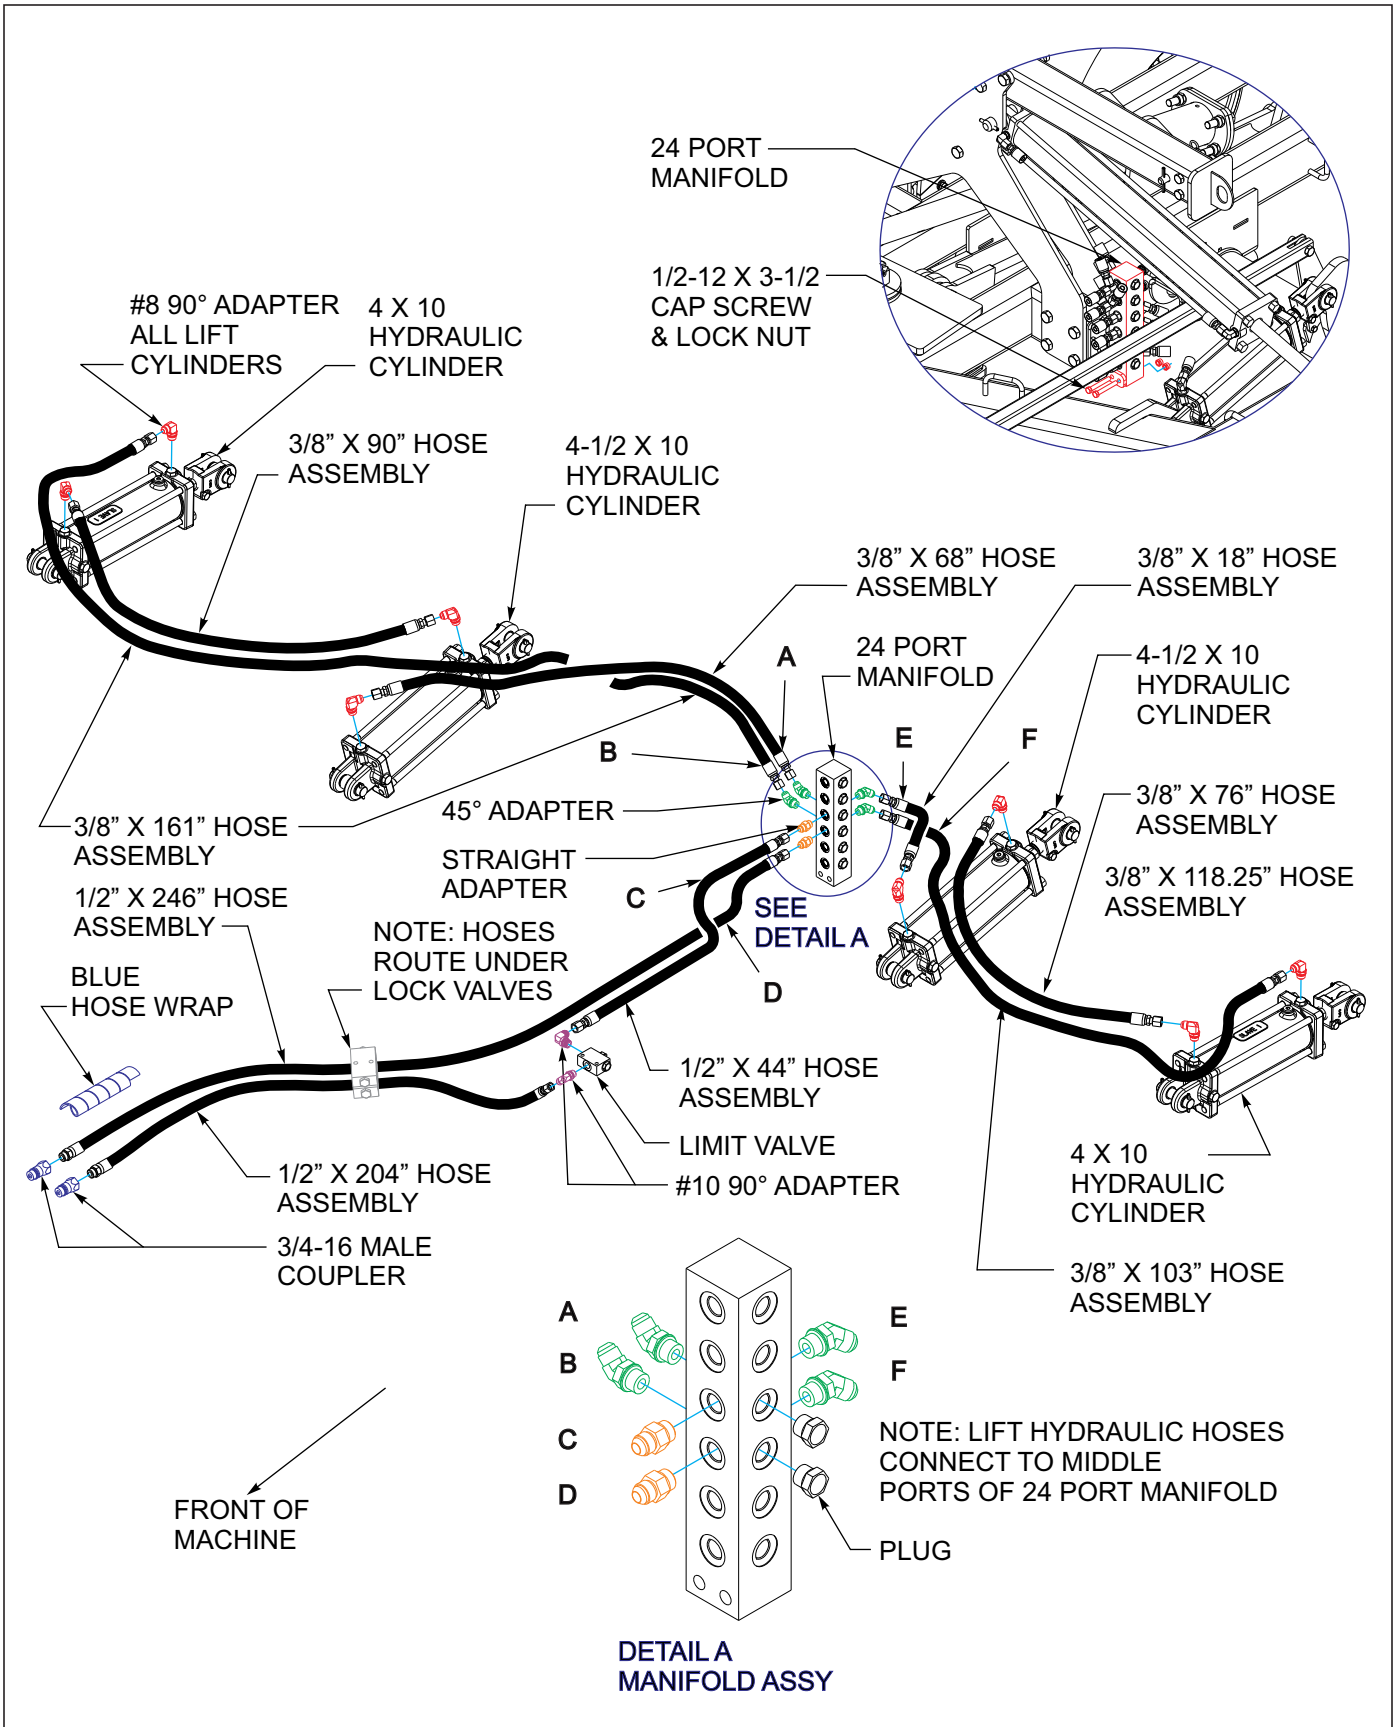
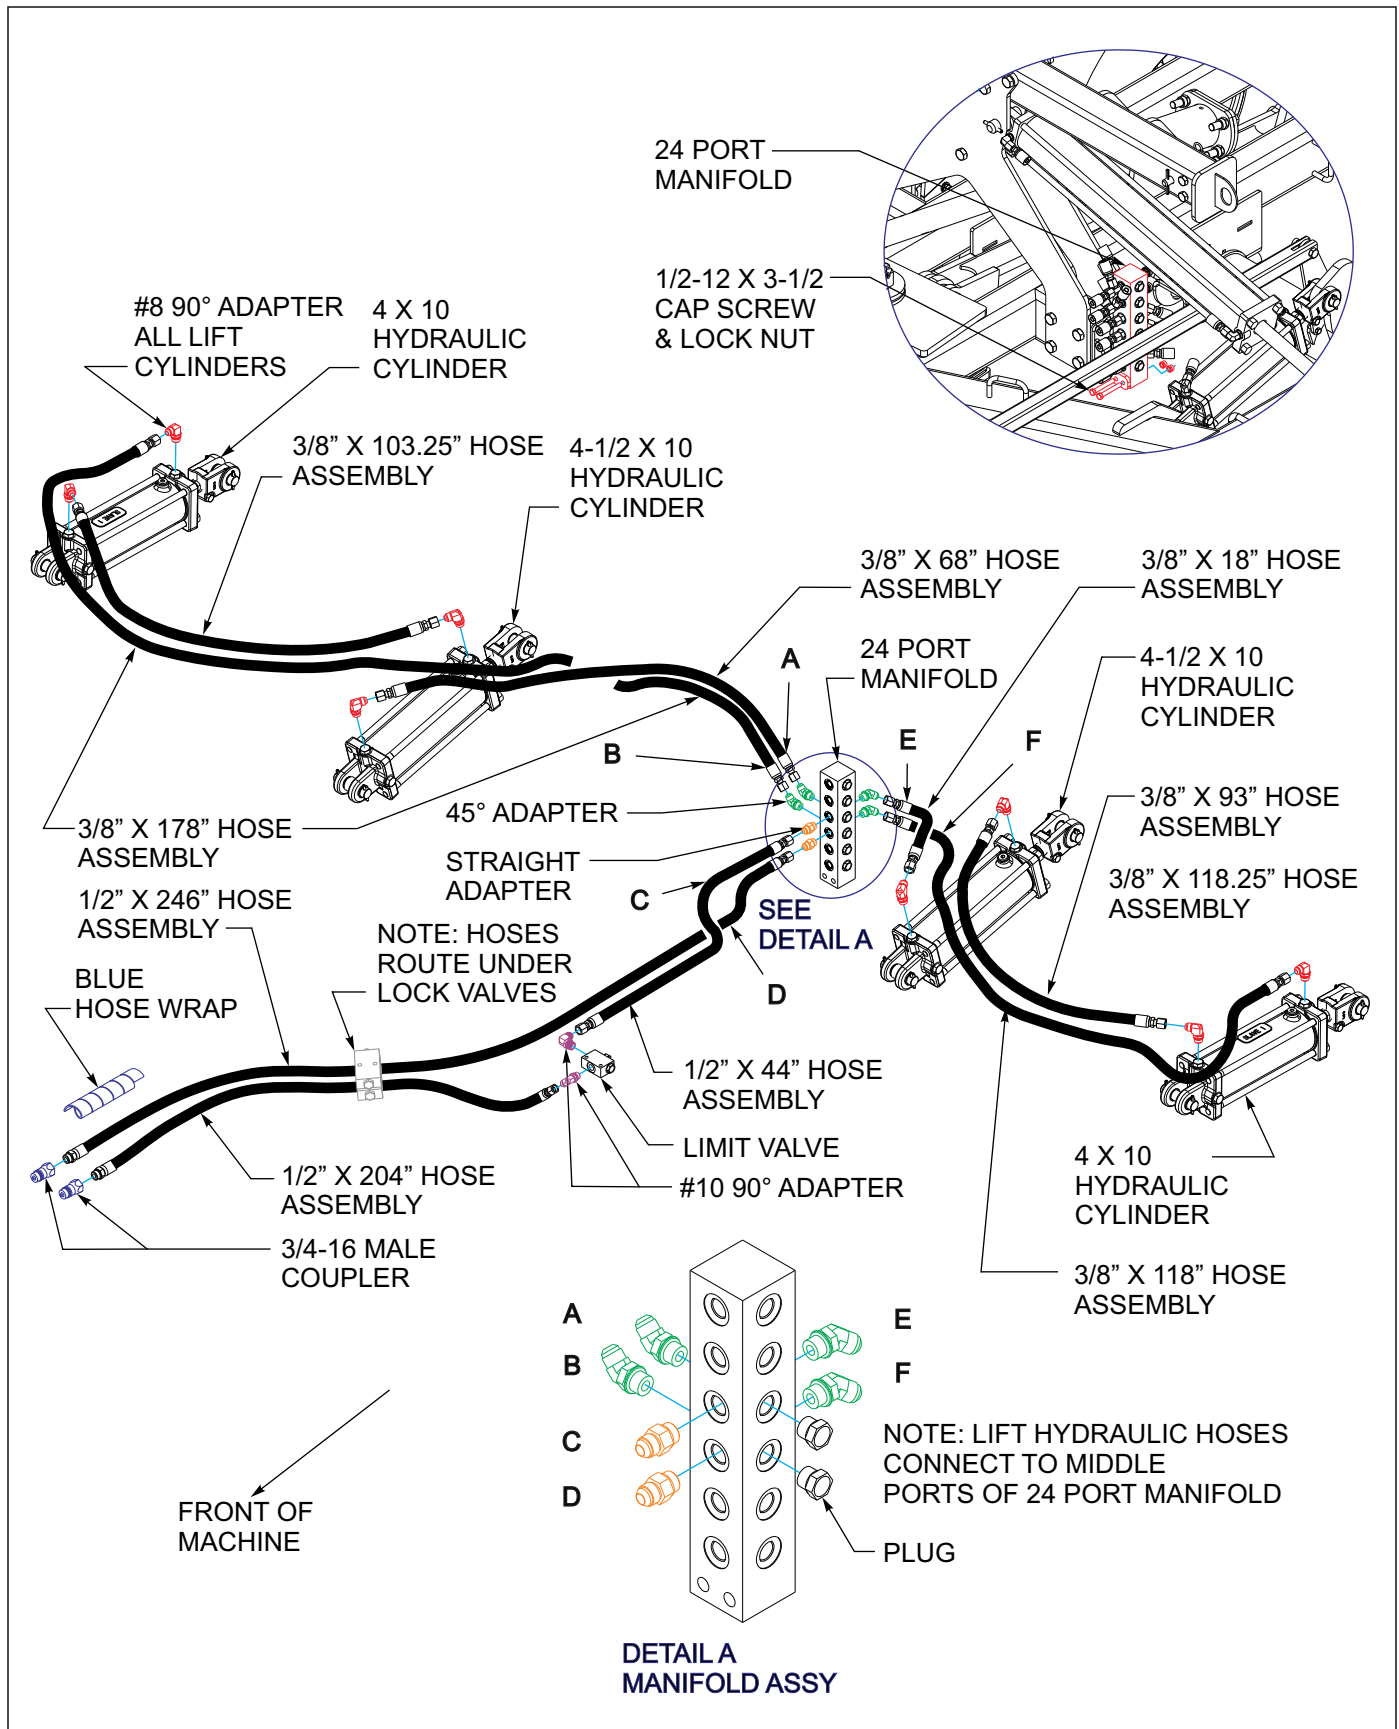
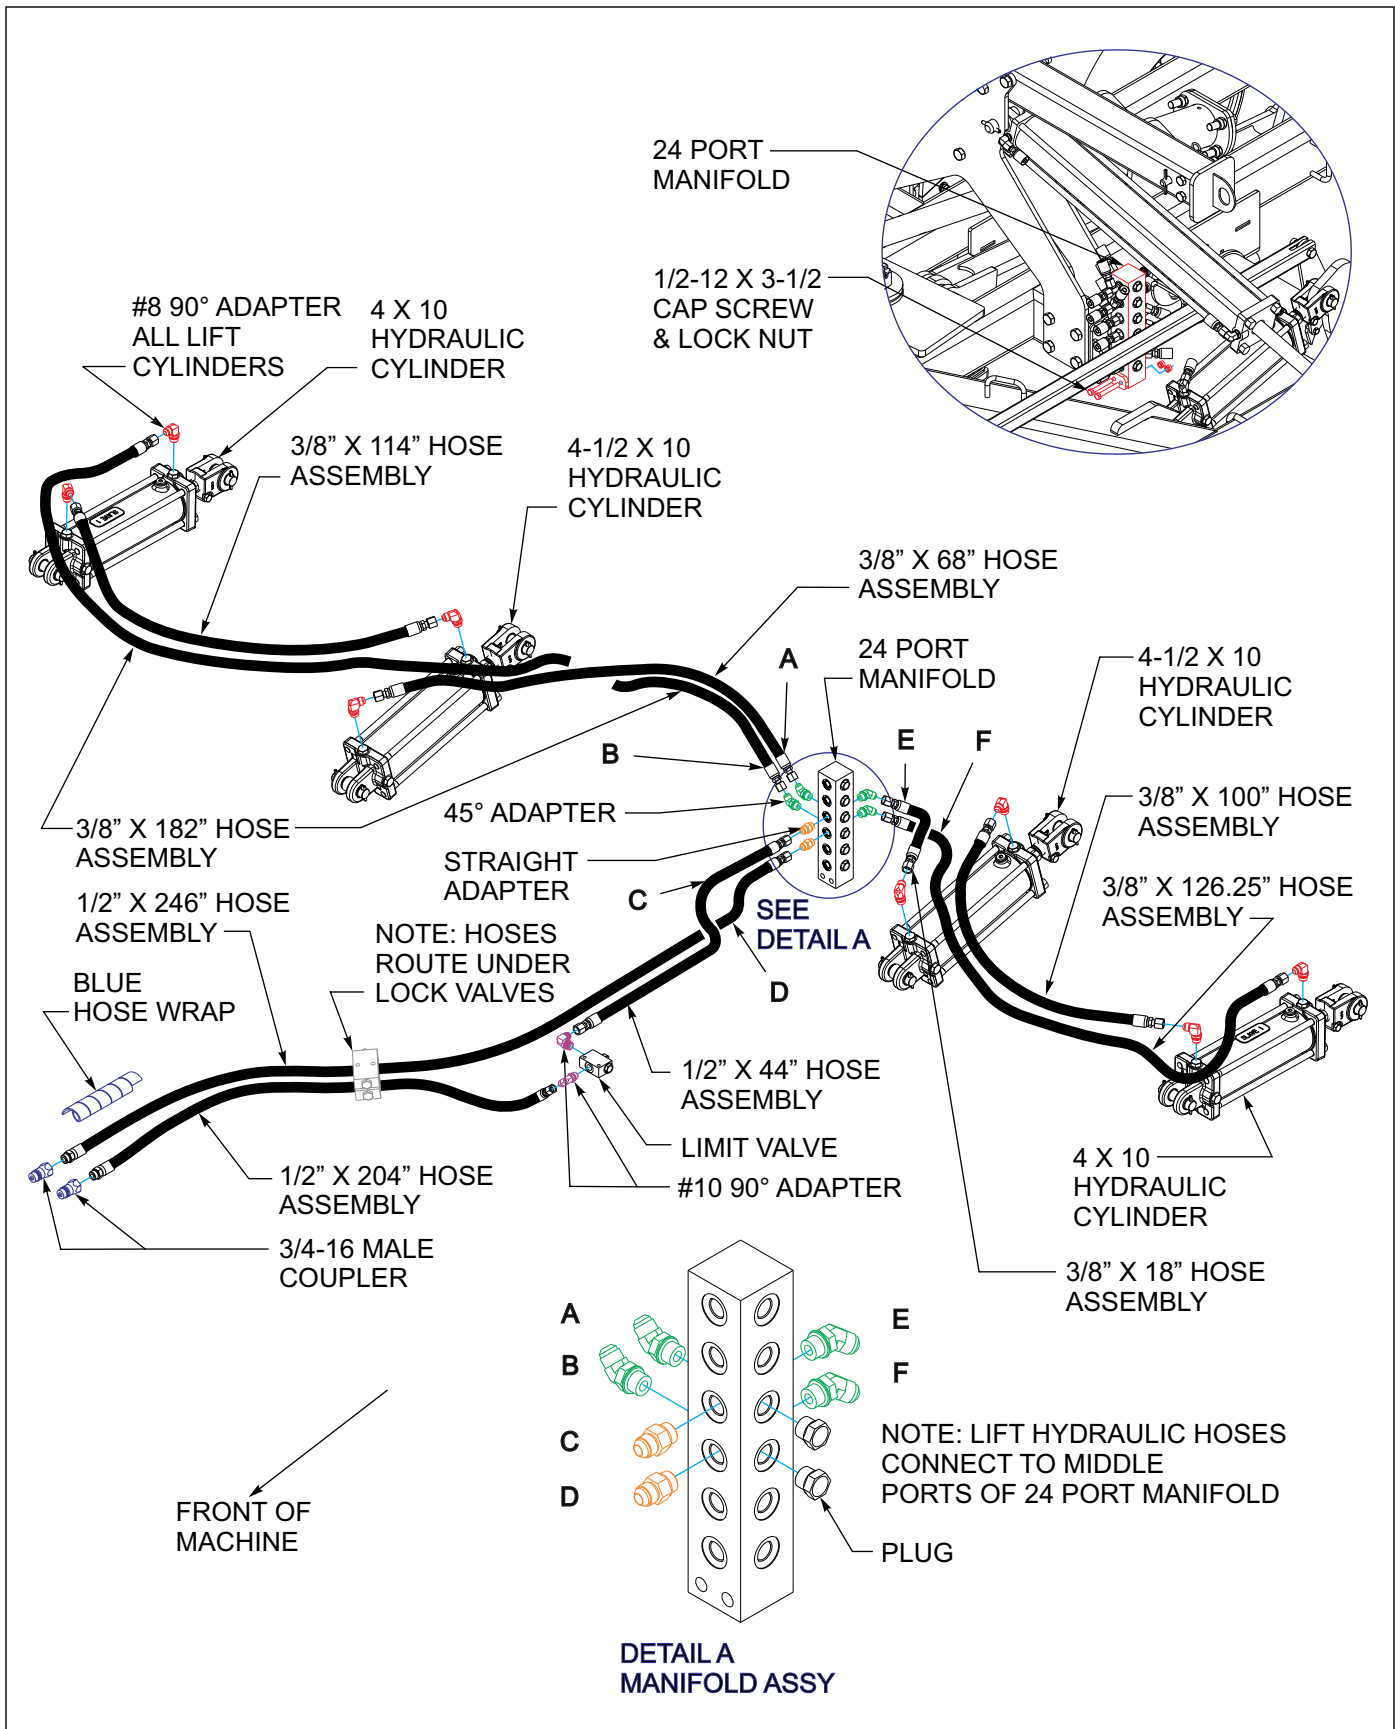
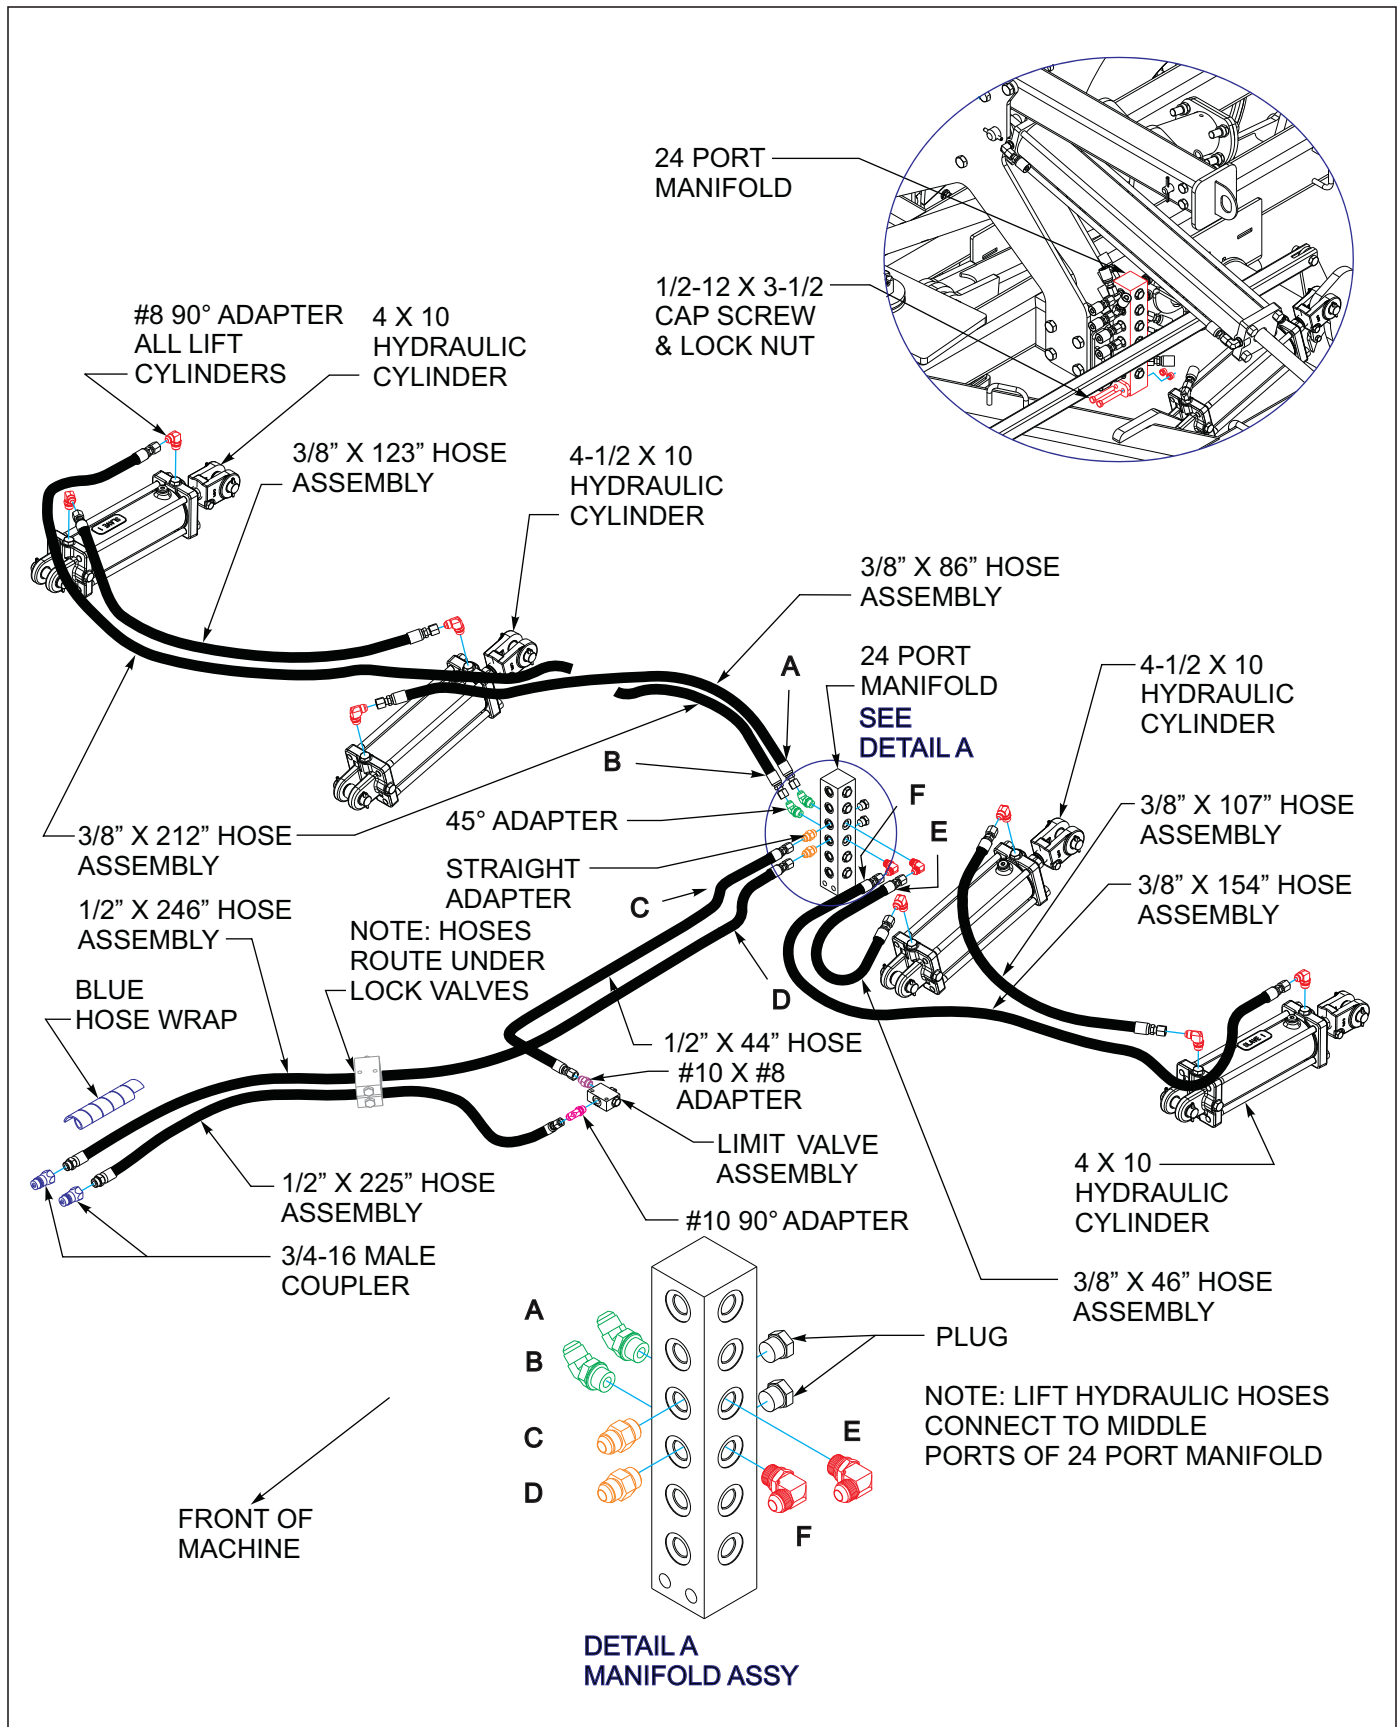

Figure 3-10: Lift Hydraulic Installation 7530-23'
Figure 3-11: Lift Hydraulic Installation 7530-26'
Figure 3-12: Lift Hydraulic Installation 7530-29'
Figure 3-13: Lift Hydraulic Installation 7530-32'/35'
Refer to Figures 3-10- 3-17 for lift hydraulic diagrams for 7530-26', 7530-29' and 7530-32'/35' models.
2. Install 90 degree regular adapter fittings in both rod and base ends of all lift cylinders that are assembled to the frame (**See Figure 3-10.7530-23', See Figure 3-11.7530-26', See Figure 3-12. 7530-29', See Figure 3-13. 7530-32'/35'**).
10. Install lift cylinder hoses and couplers, (**See Figure 3-11., 7530-26', See Figure 3-12., 7530-29' and See Figure 3-13. 7530-32'**) Wrap lift hoses with blue hose wrap.